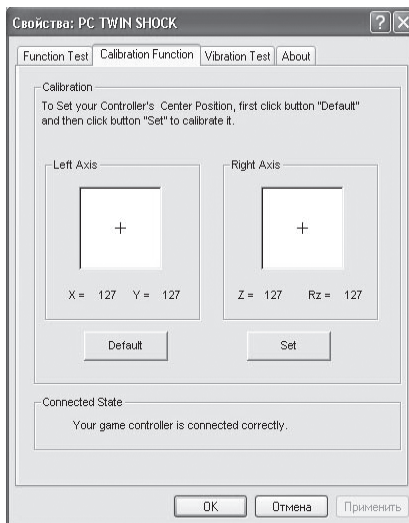

Fig. 7
- Enter Calibration Function (Fig. 7) to calibrate all four axes.